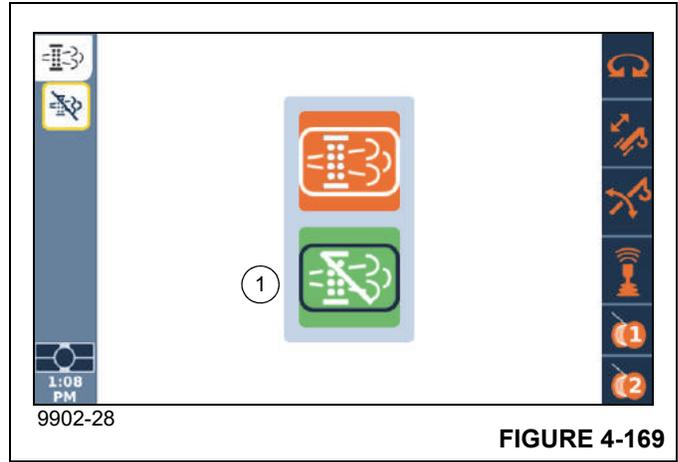

FIGURE 4-169
1. Using the Jog Dial or the Up/Down Arrow Buttons on the Navigation Control Pad, select the Inhibit Cleaning Process Icon (1, Figure 4-169) (icon changes to orange).